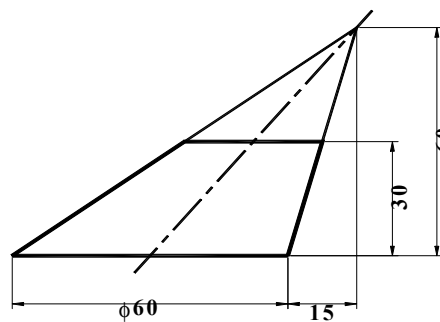

Figure T9.5
5. Figure T9.5 and T9.6 show parts of oblique cone. Develop the surfaces.